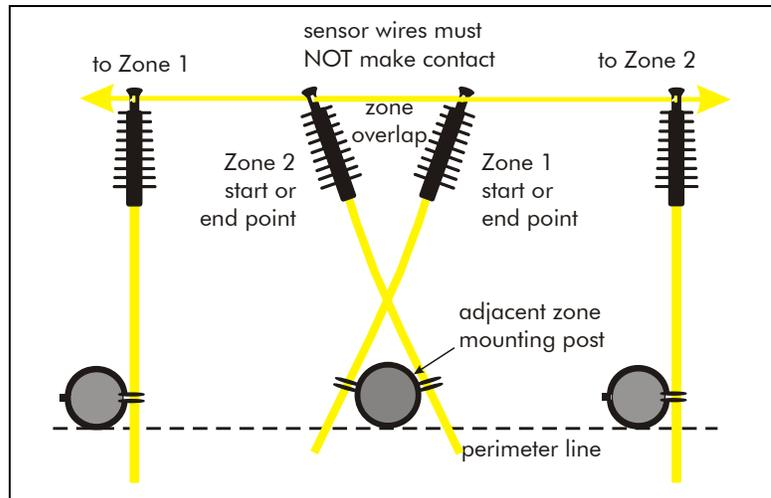

Figure e-15 Adjacent zone hardware (top view)
1. Remove the wire locking U-clip from the tension-wheel (see Figure e-15).
- The two sets of hardware are installed with slight offsets (5 to 10 °) from perpendicular. The offset angle is straightened when tension is applied to the sensor wires (see Figure e-15).